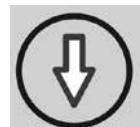

Figure 6 Moving downwards.
- Move the stretcher downwards by pressing the button that shows a 'down' arrow. The stretcher will immediately move downwards (*See figure 6*).